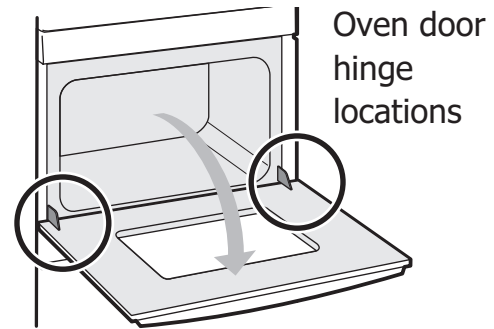

Figure 29: Door hinge location
1. Open oven door completely, horizontal with floor (Figure 29).
3. Fully open the oven door, horizontal with floor (Figure 29).